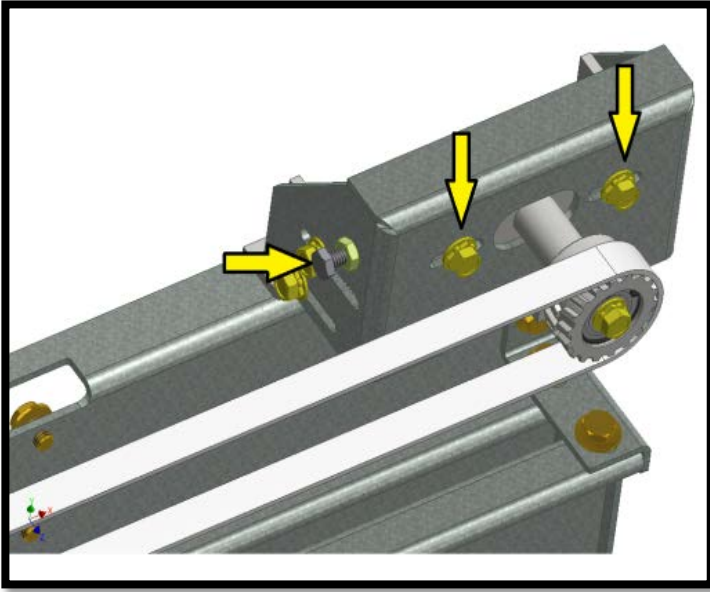

**Figure 23: Motor Bolts for Belt Alignment**
**CAUTION:** A misaligned belt can cause the belt to wear prematurely or jump teeth during operation. To adjust the motor assembly, loosen (4)  $\frac{1}{4}$ -20 bolts on both sides of the assembly, as well as (1)  $\frac{1}{4}$ -20 in the base of the assembly (Figure 23). With all (5)  $\frac{1}{4}$ -20 bolts loose, the motor assembly should slide freely in and out. Push the door closed so the clutch is near the motor assembly, and then align the motor pulley with the clutch pivot. Once aligned, tightened all (5)  $\frac{1}{4}$ -20 bolts.
Make sure that the motor assembly is tightly secure where mounted. Loosen the tensioner assembly slightly, loosening the (2)  $\frac{1}{4}$ -20 bolts on the face, so the tensioner assembly can slide left or right, as displayed in Figure 23. Tighten the tensioner adjustment screw, pushing the tensioner away from the motor assembly to moderately increase tension on the drive belt. Then retighten the (2)  $\frac{1}{4}$ -20 bolts on the assembly face. The belt tension should be as such that you can squeeze the upper and lower sides of the belt together using moderate pressure. (**NOTE:** While a loose belt can jump teeth, an overly tightened belt can be noisy.)